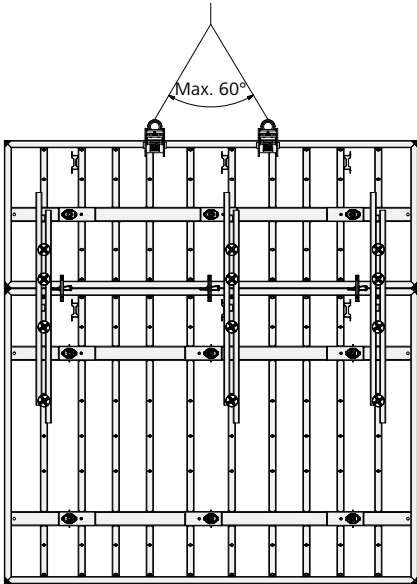

Fig. 74.1
**Crane ganging****Fig. 74.1**